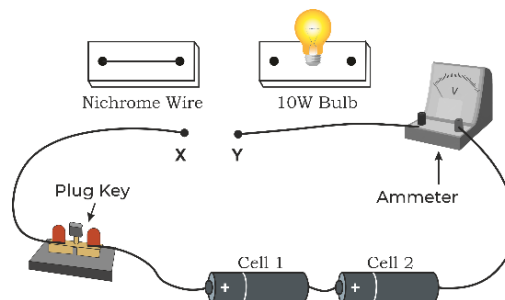

Fig. 2.23 Experimental setup
Step 1 – Set up the circuit by connecting four dry cells of 1.5 V each in series with the ammeter leaving a gap XY in the circuit, Figure 2.23 illustrates the various components required.